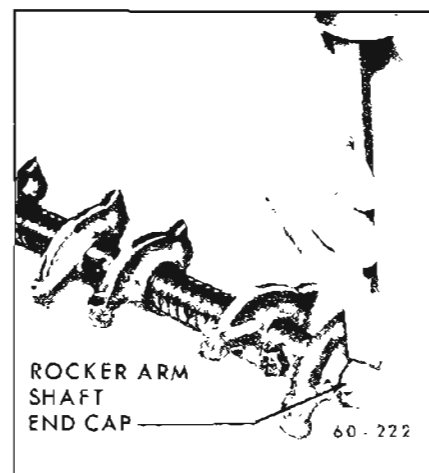

Figure 60-317—Removing Rocker Arm Shaft End Cap
3. Remove shaft end cap by splitting side of cap with chisel. See Figure 60-317.